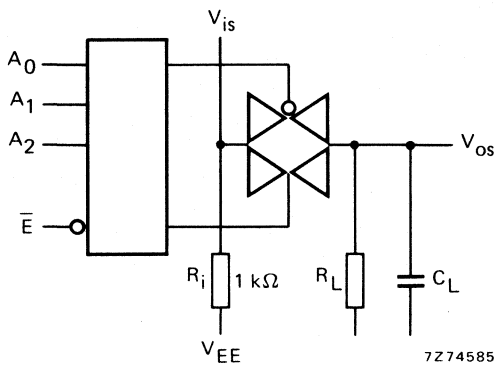

Fig. 2
- $R_L = 10 \text{ k}\Omega$  to  $V_{EE}$ ;  $C_L = 50 \text{ pF}$  to  $V_{EE}$ ;  $\bar{E}$  at  $V_{SS}$ ;  $V_{is}$  is  $V_{DD}$  (square-wave); see Fig. 2.
- $R_L = 10 \text{ k}\Omega$  to  $V_{EE}$ ;  $C_L = 50 \text{ pF}$  to  $V_{EE}$ ;  $\bar{E}$  at  $V_{SS}$ ;  $A_n$  is  $V_{DD}$  (square-wave);  $V_{is} = V_{DD}$  or  $V_{EE}$ ; see Fig. 2.
- $R_L = 10 \text{ k}\Omega$ ;  $C_L = 50 \text{ pF}$  to  $V_{EE}$ ;  $\bar{E}$  is  $V_{DD}$  (square-wave);  $V_{is}$  at  $V_{DD}$  and  $R_L$  at  $V_{EE}$  for  $t_{PHZ}$  and  $t_{PZH}$ ;  $V_{is}$  at  $V_{EE}$  and  $R_L$  at  $V_{DD}$  for  $t_{PLZ}$  and  $t_{PZL}$ ; see Fig. 2.
- $R_L = 10 \text{ k}\Omega$  to  $V_{EE}$ ;  $C_L = 15 \text{ pF}$  to  $V_{EE}$ ;  $\bar{E}$  or  $A_n$  is  $V_{DD}$  (square-wave); crosstalk is  $V_{os}$  (peak value); see Fig. 2.